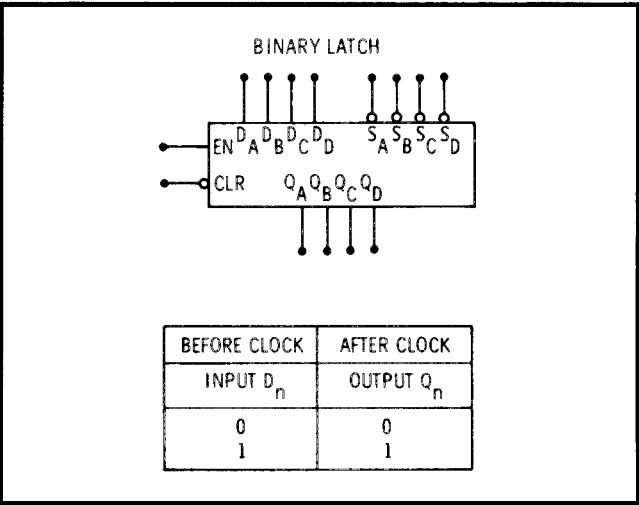

Figure 8-10. Binary Latch
8-54. Binary Latch. The four bit binary register shown in Figure 8-10 is used as a storage latch. Information data (Dn)\* inputs is transferred to the respective Qn\* outputs when the enable (EN) input